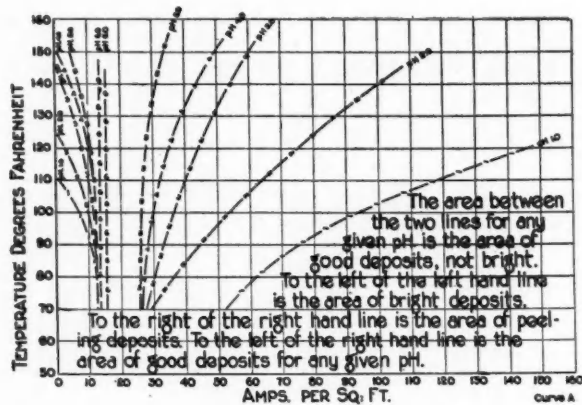

Fig. 1—Relation of temperature and current to good nickel deposits at varying values of pH +
1. **Increase in plating range.** Possible to use higher density without peeling or cracking at edges. Thicker plate within permissible time limits. See Figs. 1 and 2. These curves may be used when a short plating time is used.
7. For bright nickel plating, a low pH bath gives best results at low temperatures, while high pH bath can be operated over a wider temperature range. Shown by Figs. 1 and 2.